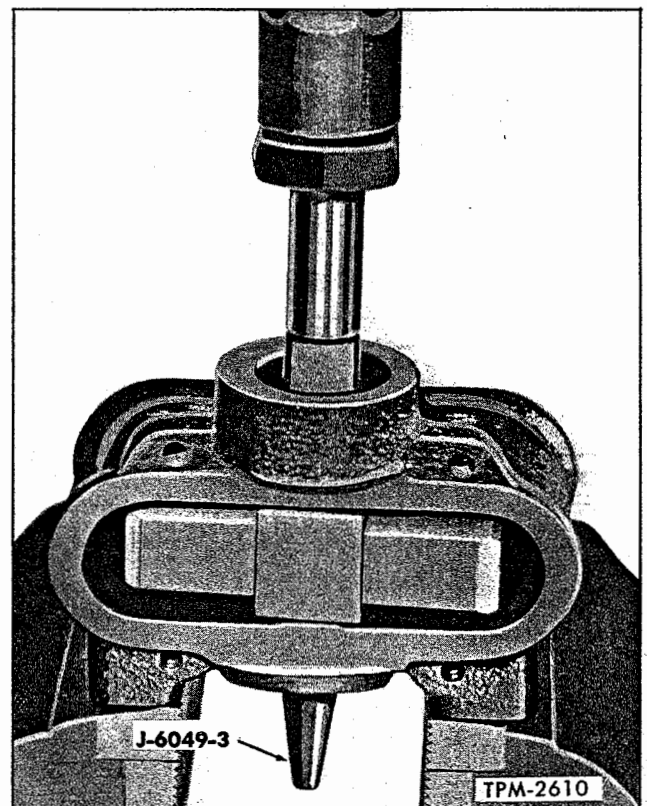

Figure 23—Installing Arm and Shaft
5. Hold arm and shaft (32) at right angle to body. Place end of shaft on tool and drive the shaft through the seal, cam follower beam, and housing. Force out tool on opposite side as shown in figure 23.